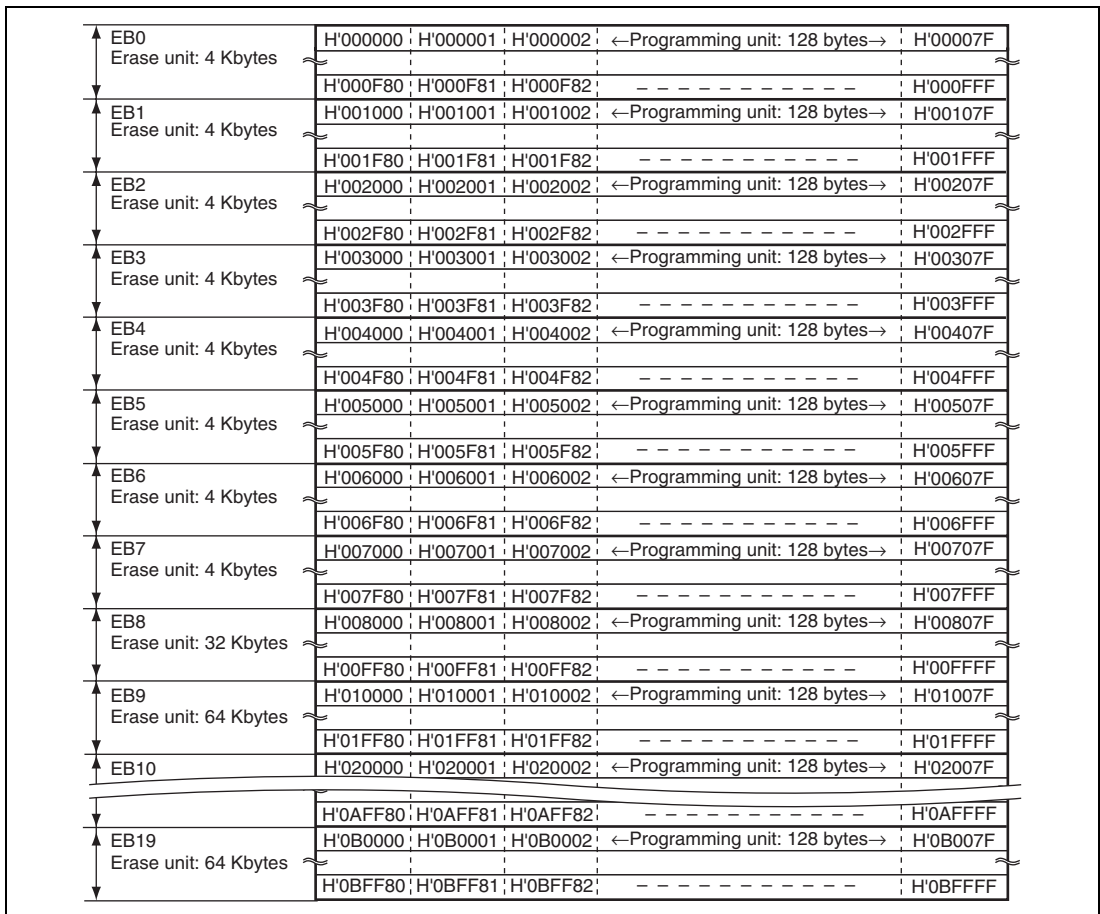

Figure 18.4 User MAT Block Structure of H8SX/1657C (1)
Figure 18.4 (1) shows the block structure of the 768-Kbyte user MAT. The heavy-line frames indicate the erase blocks. The thin-line frames indicate the programming units and the values inside the frames stand for the addresses. The user MAT is divided into eleven 64-Kbyte blocks, one 32-Kbyte block, and eight 4-Kbyte blocks. The user MAT can be erased in these divided block units. Programming is done in 128-byte units starting from where the lower address is H'00 or H'80. RAM emulation can be performed in the eight 4-Kbyte blocks.